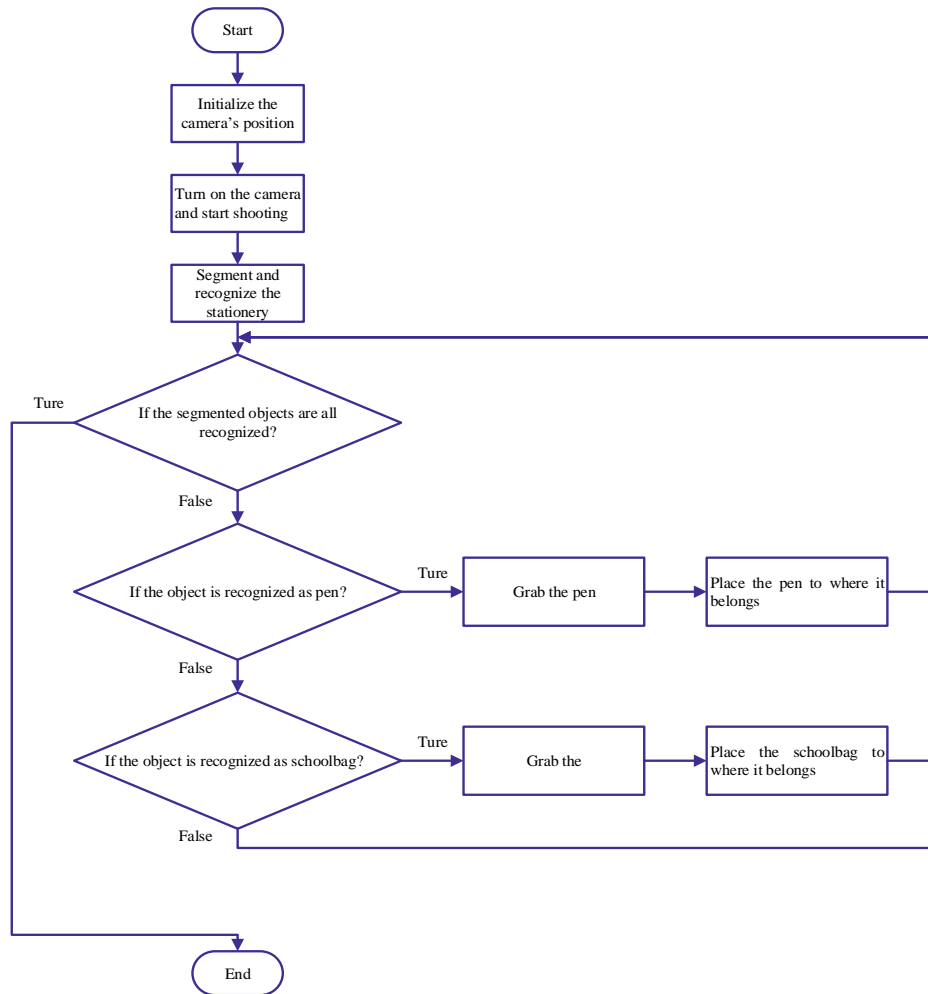

Figure 4.22 Stationery classification flow
(2) Design Program
Step 1: Analyze the stationery classification flow, and read the flow chart, as shown in Figure 4.22.